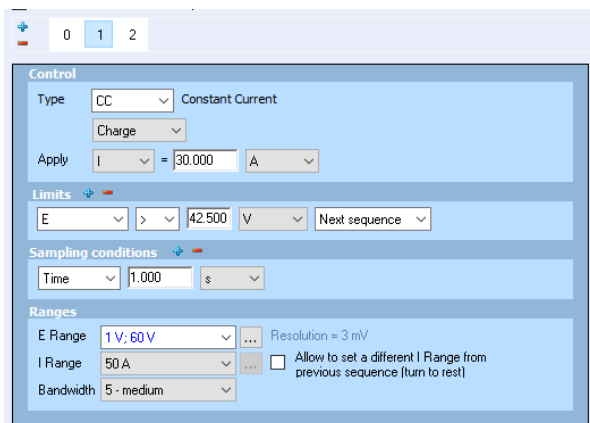
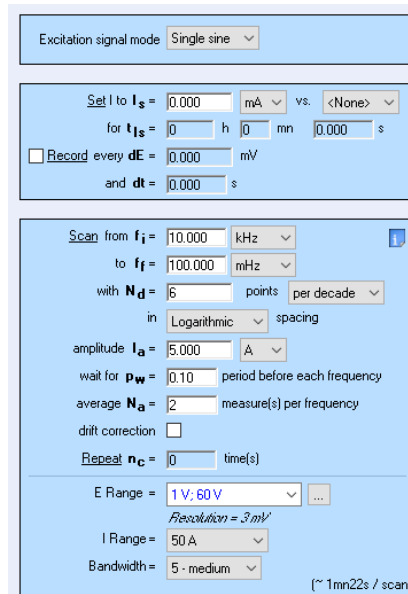

Figure 4: cycling settings (ModuloBat technique).
Figure 5: EIS settings (Galvano EIS technique).
The cycling is performed at the maximal regime of the pack *i.e.* 30 A (pack specifications are given in II.3) with ModuloBat (MB) technique (Fig. 4) between 42.5V and 37.0 V. Each cycle is followed by one EIS measurement in galvanostatic mode (GEIS, Fig. 5) [4].